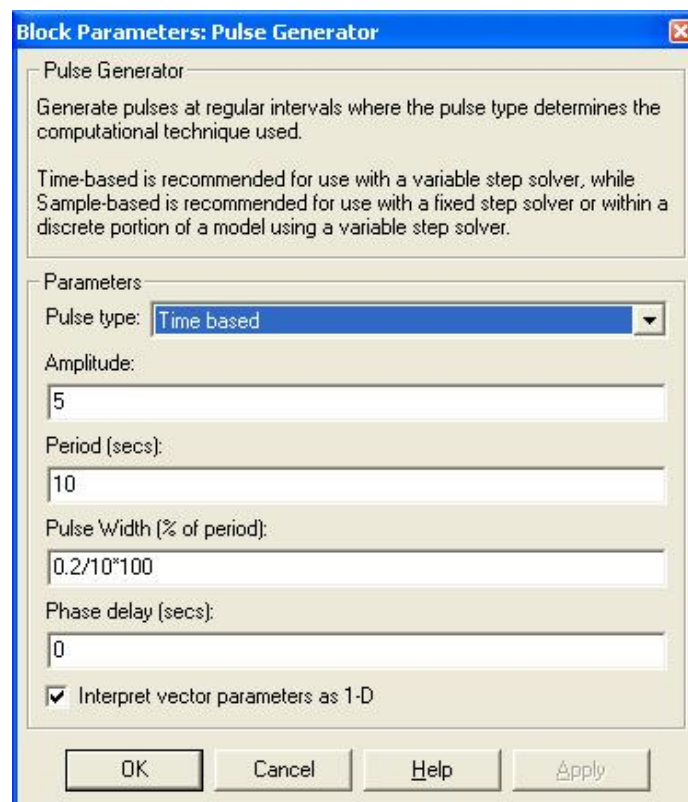

Figure 3.3: Pulse Generator configuration for Lab 3
4. As in Lab ??, enter the motor state equation using the values of k_E and τ that were estimated in Lab 1 (make sure that you specify the appropriate output). Double-click on the **Pulse Generator** icon and enter the information as shown in Figure 3.3. The **Pulse Generator** introduces the impulse function